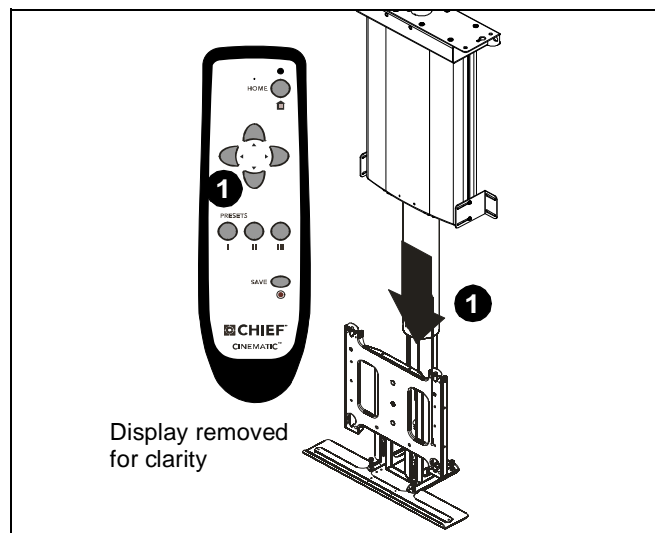

Figure 23
3. If the dimension identified during step 1 above greater than the thickness of the bottom cover being installed, lower the display using the remote control until locknuts securing right and left cover adjustment brackets can be accessed. (See figure 23)